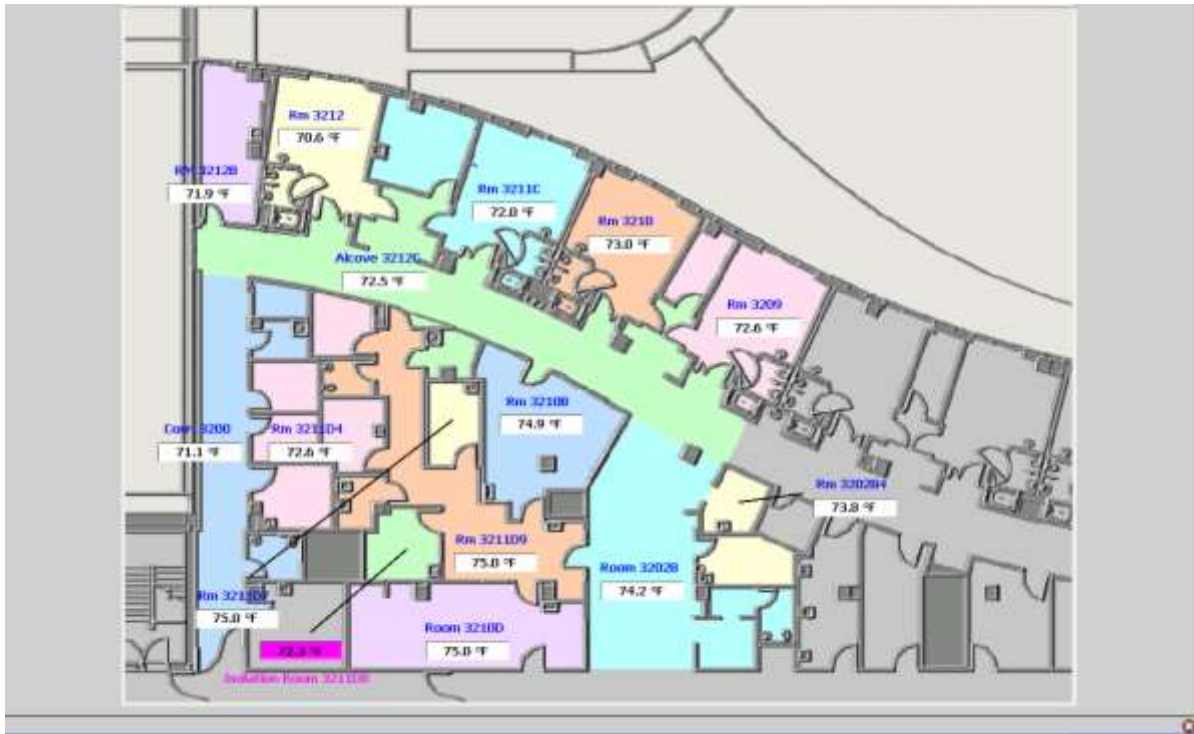

Figure 4: Detailed Floor Plan Graphic Example
- If user clicks on the AHU tag (in the legend), it shall route them to that AHU graphic. If user clicks on AHU region in floor plan it shall take them to detailed floor plan (see Figure 4 on pg. 26) of that AHU service area.